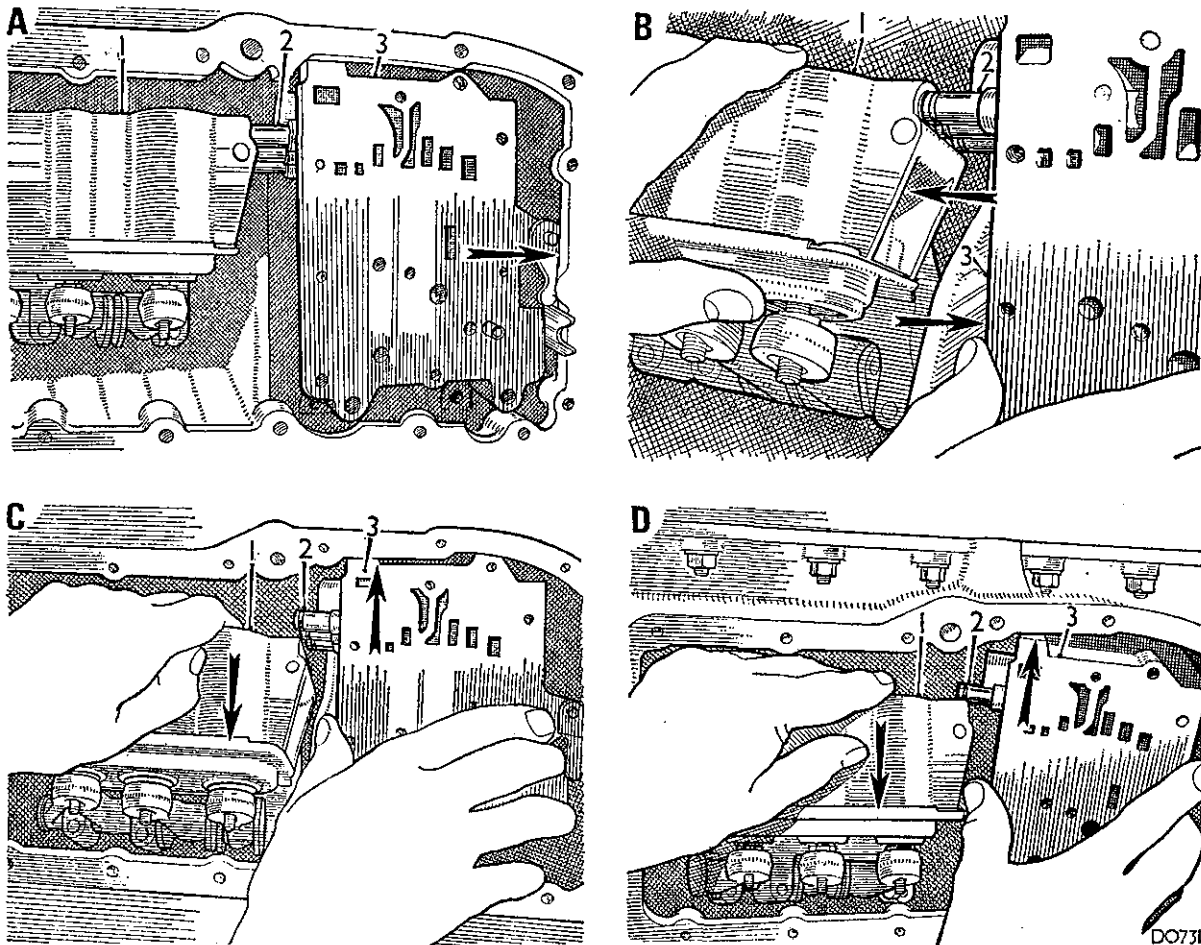

Fig. Fa.28
- (31) Remove the valve block lid and valve chest.
- (32) Remove the pipe chest as shown in the operation sequence in Fig. Fa.28 after pulling it outwards to release it from the bobbins and to disconnect the governor linkage.
- (33) Refer to Fig. Fa.28.
- (34) Remove the lid and valve chest from the pipe chest of the new unit. Refit these as individual components in the reverse order of the removing procedure, noting the following points:
- (35) Fit the three bobbins into their locations in the transmission case.
- (36) Assemble the three pipes into the pipe chest (together with the nylon guide) before refitting the unit to the transmission casing.
- (37) Carry out operation (21).
- (38) Position the plastic sleeve over the rings on the forward clutch shaft.